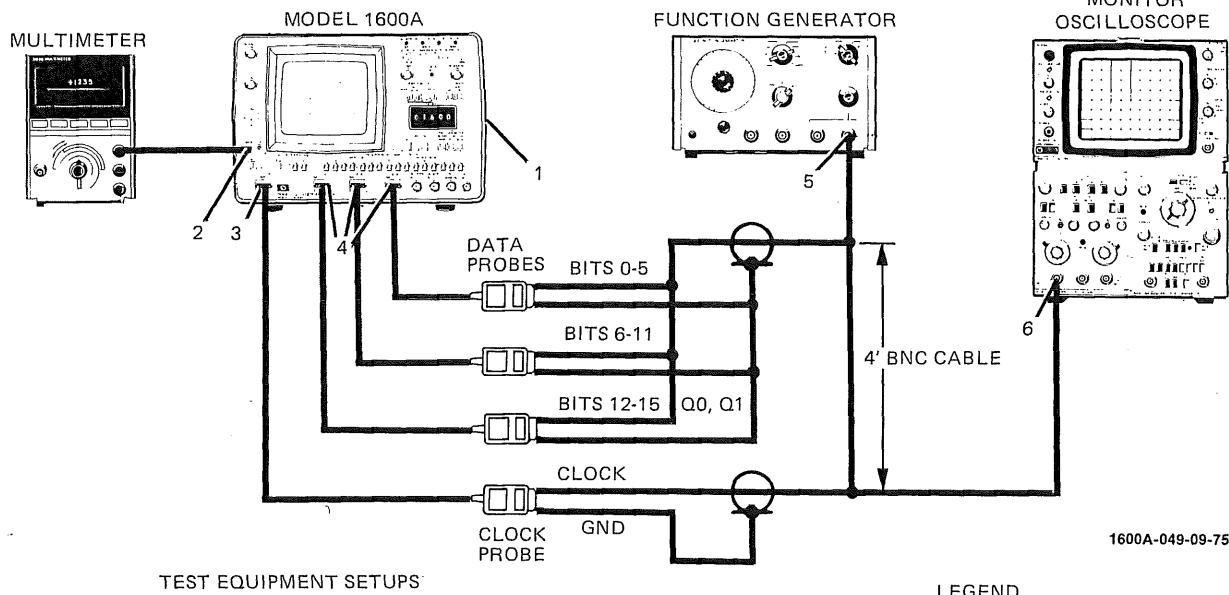

Figure 5-4. Threshold/Logic Swing Test Setup
c. Connect test equipment as shown in figure 5-4.